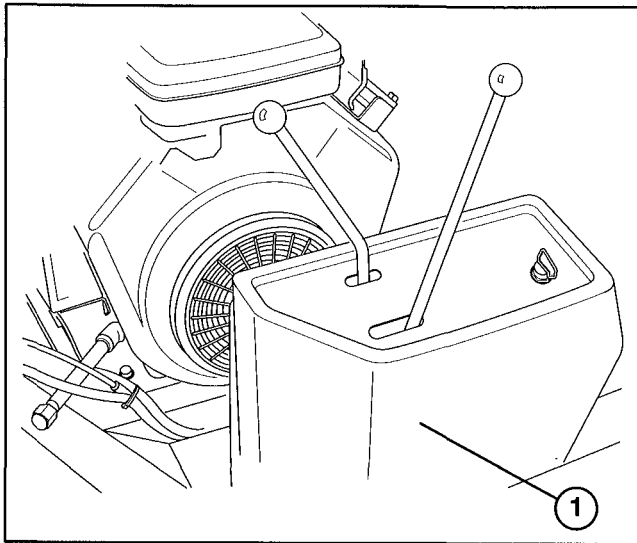

Figure 36
A. Remove control cover to expose adjusting screws (Fig. 36).